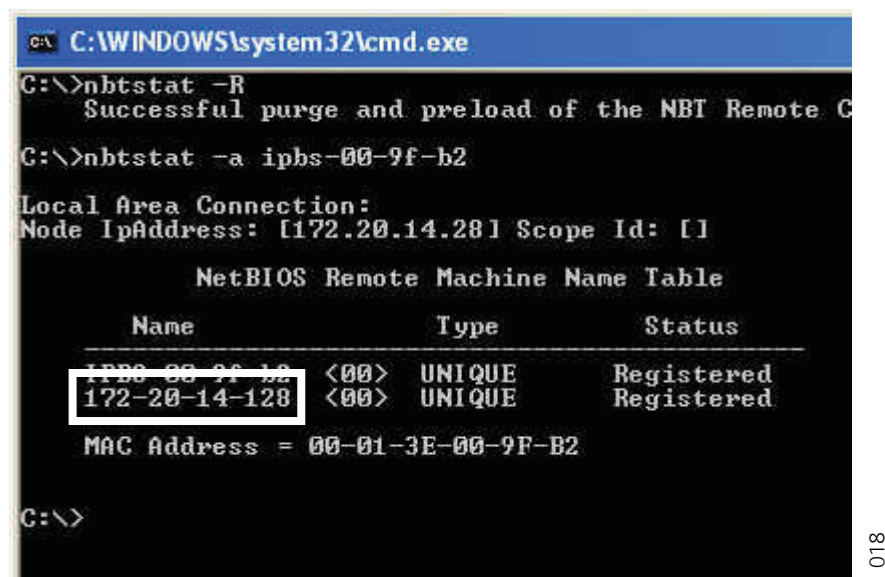

Figure 19. Determine the IP address
- 3 The IP address is displayed in the command window, see the white frame in figure 19.